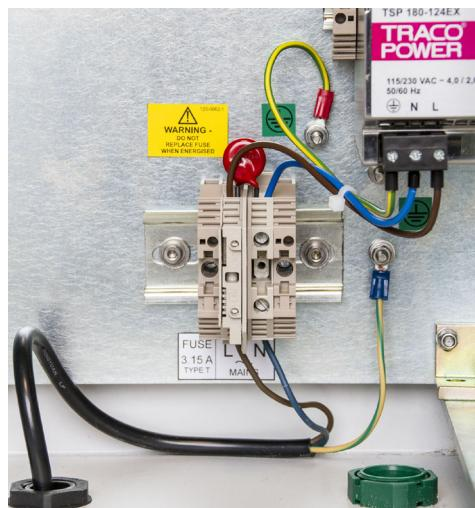

Figure 4.1 - AC power input connections
The AC power cable should enter the enclosure through a cable gland (minimum IP54) from the underside on the right-hand side. The AC power connection terminals are located on the inner back panel of the enclosure on the lower right-hand side- see Figure 4.1.
The incoming AC power wiring terminates on a pair of DIN-rail mounted terminals, see Figure 4.1.
- a) Feed the AC power cable through the cable gland and prepare the live (L) and neutral (N) wire ends, preferably with crimped ferrules, for connection to the terminals. Avoid excessive length on these cable ends to avoid the possibility of a loose end touching adjacent surfaces. Tighten terminals to a torque value in the range 0.8- 1.6Nm.
- b) The protective ground wire should be fitted with an M4, crimped, ring-terminal and connected securely to the threaded stud marked to the lower right of the DIN terminals- see Figure 4.1. Ensure that the earth wire is always the longest so that it will be the last one to take the strain if the cable should slip in the gland that anchors it.